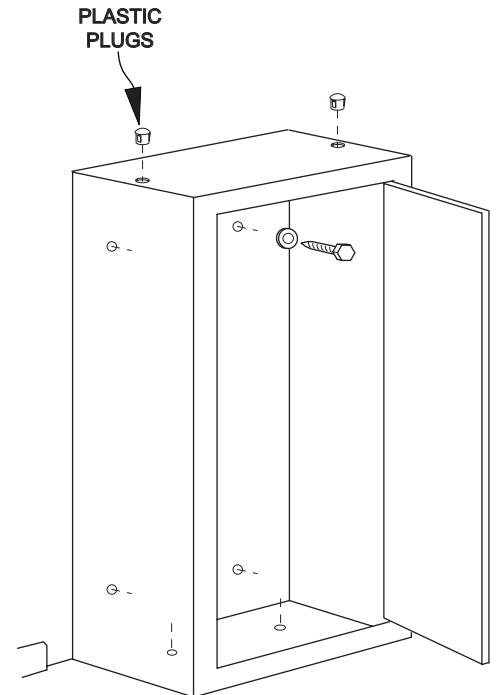

Figure 9
The cabinet should be flat against the wall and floor. Remove the baseboard if necessary. (See Figure 9)
Insert the 2 Plastic Plugs in the cabinet's top mounting holes if you are not installing the Pistol-Ammo cabinet on the top of the security cabinet (See Figure 9).
Drill (4) 3/16" pilot holes into the wall studs and secure the cabinet to the wall using (4 ea.) lag bolts and washers. (See Figure 9)
Drill (2) pilot holes and secure the cabinet bottom to the floor with (2) lag bolts and washers. (See Figure 9)